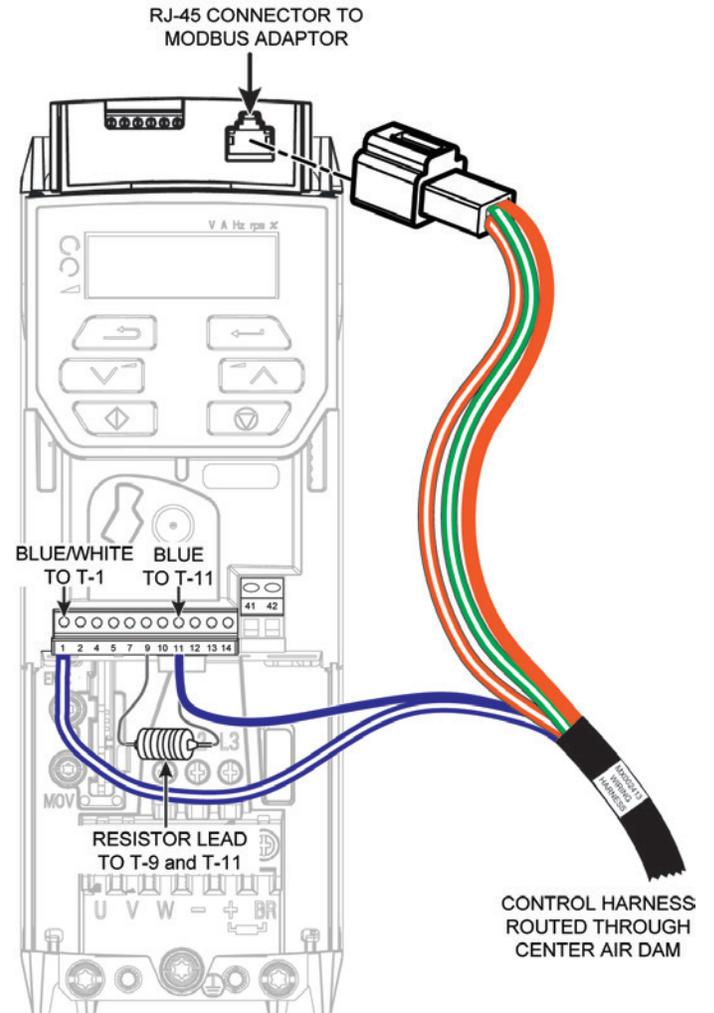

Figure 7. Connect Control Harness Wires to VFD
1. Plug RJ-45 connector from control wiring harness (MX002413) into AI-485 Modbus Adapter. See Figure 7.
2. Connect remaining control harness wires to the terminal strip below the VFD control panel. See Figure 7.